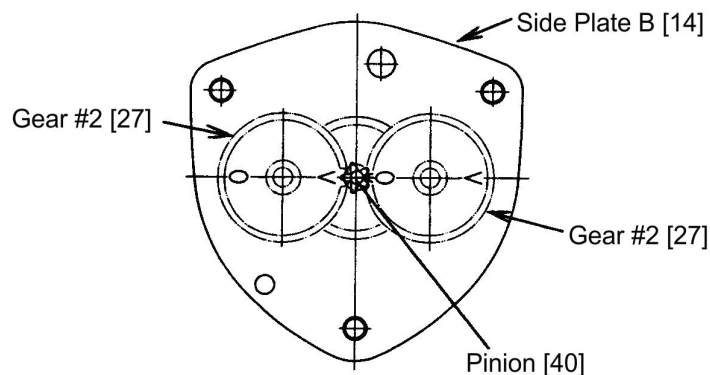

Figure 6-4 Gear Train Assembly
- 8) Grease the two gear #2 [27] (one for 1/2T), the load gear [25], and the gear of the pinion [40]. Place them in side plate B [14] in the correct gear plane. Letters “O” and “V” on the gears must face each other as shown in figure 6-4 below. Do not forget to apply grease to the boss on both sides of gear #2.